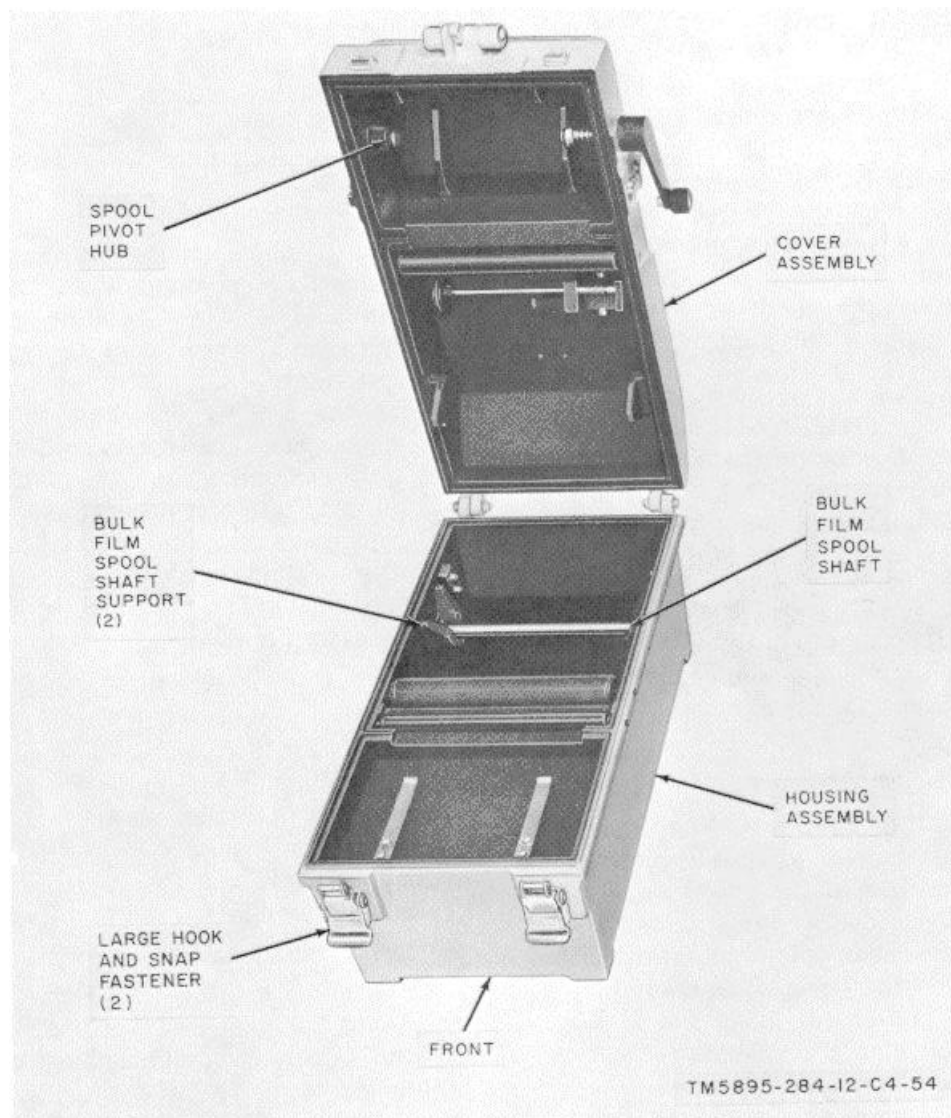
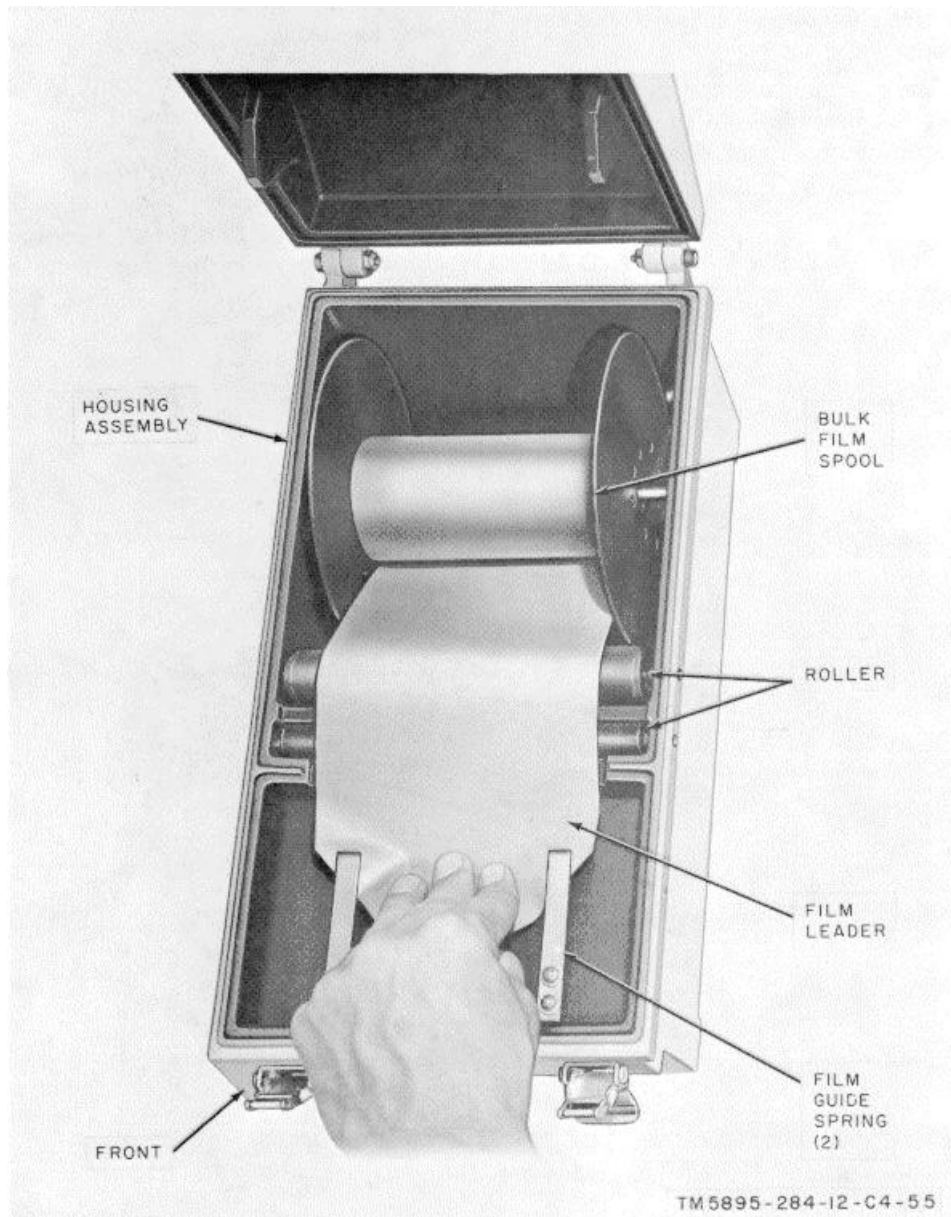
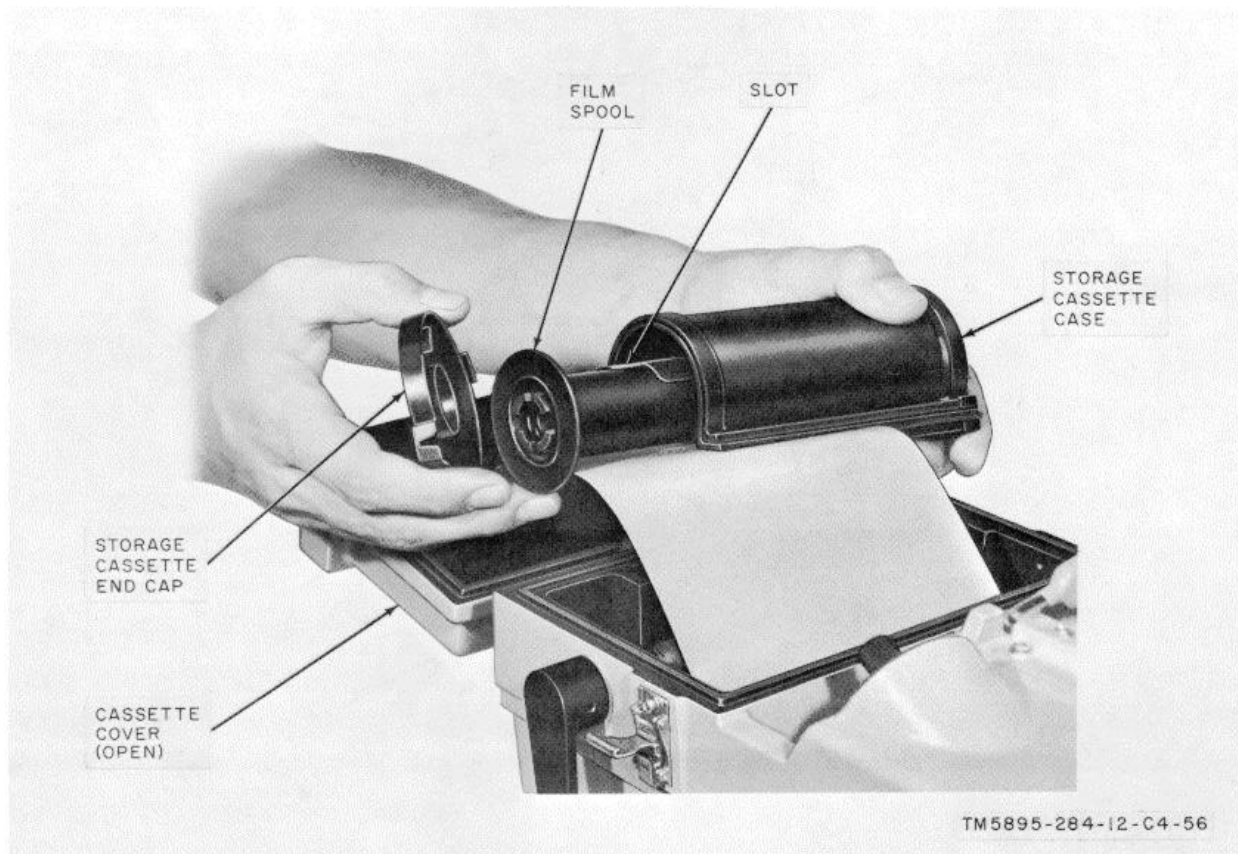
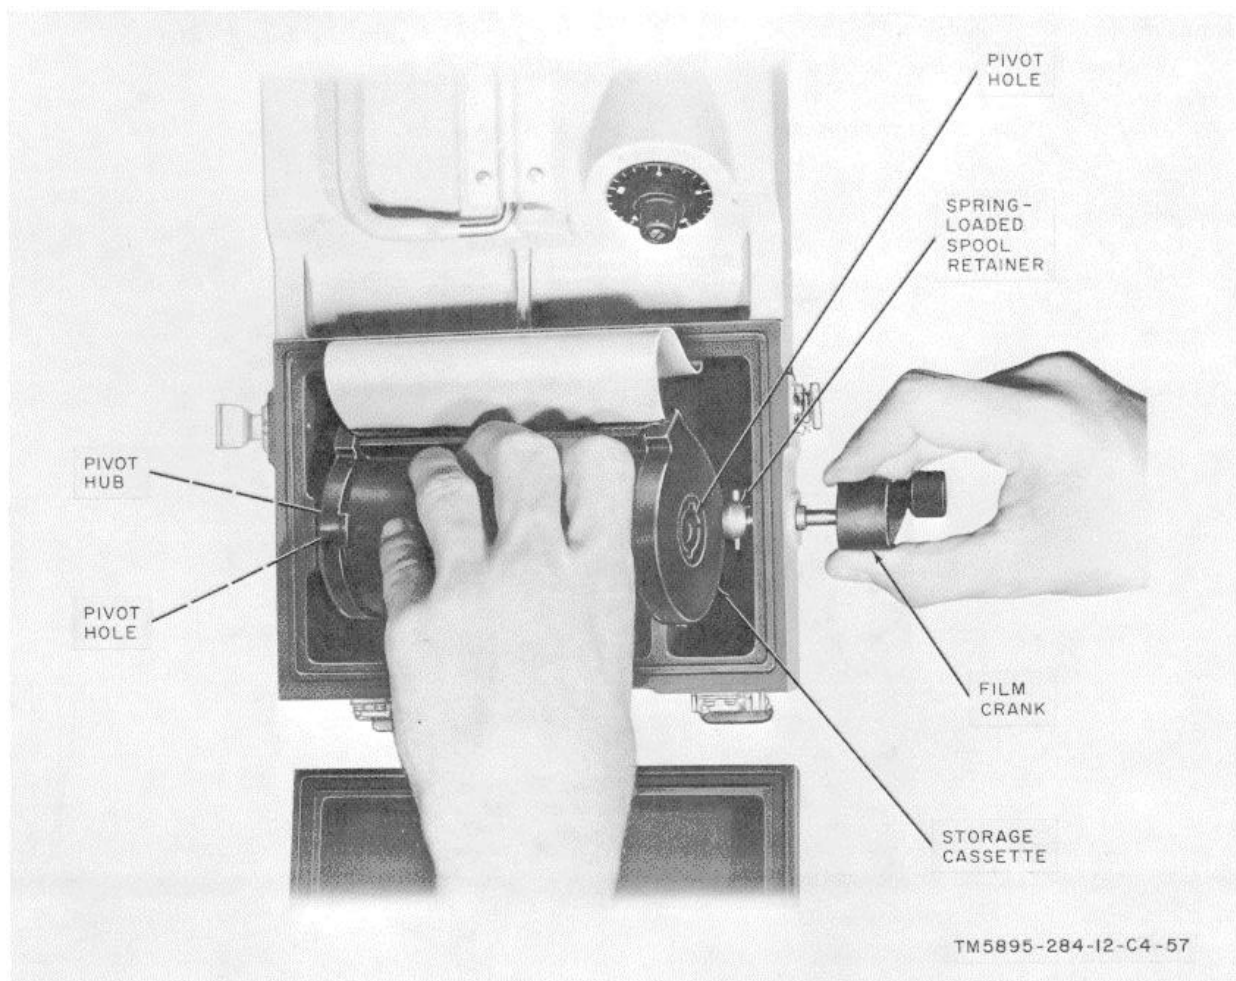

Figure 2-12. Loader, Film Photographic MX-4668/APS-94A, cover assembly open.
Figure 2-13. Installing bulk film in film loader.
Figure 2-14. Threading storage cassette film spool.
Figure 2-15. Installing storage cassette in film loader.
(1) Unfasten the two large hook and snap fasteners (fig. 2-12) on the front of the film holder housing assembly and open the cover assembly.
(2) Remove the bulk film spool shaft (fig. 2-12) and install it in the hole through the bulk film spool (fig. 2-13.)
(3) Install the ends of the bulk film spool shaft in the two bulk film spool shaft supports (fig. 2-12).
(4) Grasp the film leader (fig. 2-13) and pull the film toward the front of the housing assembly (over the two rollers).
(5) Insert the film leader under the two film guide springs.
(6) Close the cover assembly (fig. 2-12) and
(2) Remove the storage cassette end cap (fig. 2-14) from the storage cassette case and remove the film spool.
(3) Remove the film leader from beneath the two film guide springs (fig. 2-13).
(4) Thread the film leader into the slot in the film spool (fig. 2-14).
(5) Slide the film spool into the storage cassette case and replace the storage cassette end cap removed in (2) above.
(6) Position the storage cassette as shown in figure 2-15 so that the pivot hole in the film spool (left side) rests against the spool pivot hub (underneath view, fig. 2-12) at the left side of the cover assembly.
(7) Pull out on the film crank (fig. 2-14) until the storage cassette can be lowered to a position in
(14) Pull out on the film crank (fig. 2-15) to disengage the spring-loaded spool retainer from the pivot hole in the cassette film spool.
(16) Use a knife or other sharp instrument to cut the film.
(17) Cut off the corners of the film leading edge to produce a film leader (fig. 2-13).
(18) Repeat the procedure given in (2) through (17) above until the required number of storage cassette are loaded.
(19) Repeat the procedure given in (17) above.
(20) Insert the film leader under the two film guide springs (fig. 2-13).